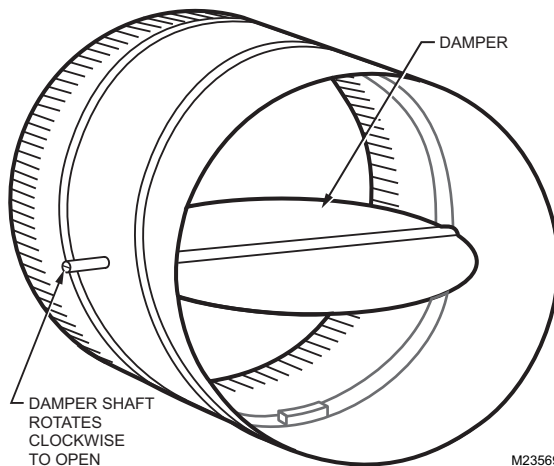
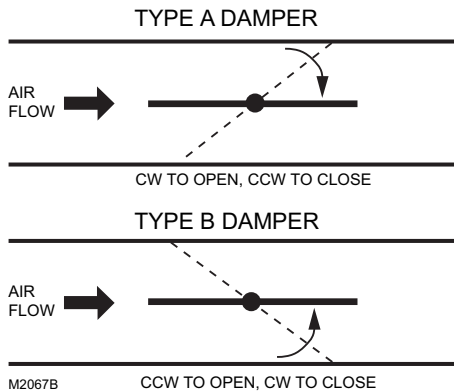

Fig. 2. Damper with 90 degree CW rotation to open.
Fig. 3. Determining the rotation direction (CW or CCW) for damper opening.
Determine the damper rotation and opening angle prior to installation. See Fig. 2 below and Fig. 3 on page 3 for examples.
3. Determine the direction the damper shaft rotates to open the damper (CW or CCW) (see Fig. 3). Typically, there is an etched line on the end of the damper shaft that indicates the position of the damper. In Fig. 2, the indicator shows the damper open in a CW direction.
4. Determine the damper full opening angle (45, 60, or 90 degrees). In Fig. 2, the damper is open to its full open position of 90 degrees.